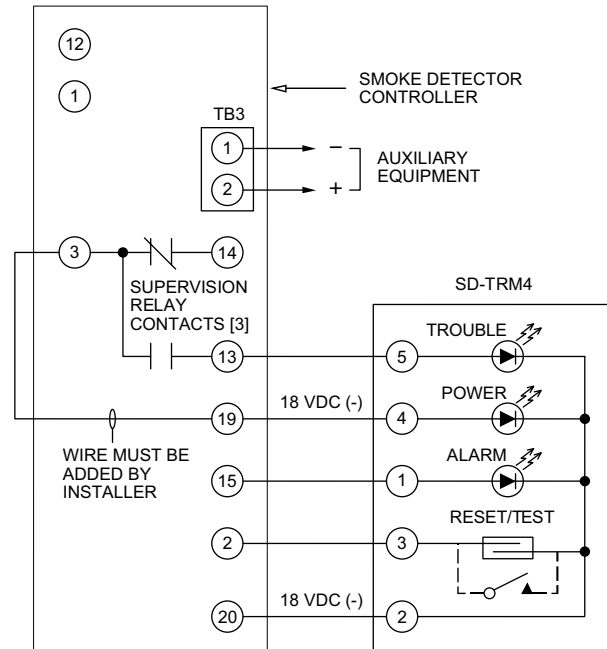

Fig. 38 — Remote Test/Reset Station Connections
The test/reset station dirty sensor test checks the test/reset station’s ability to initiate a sensor dirty test and indicate the results. It must be wired to the controller as shown in Fig. 38 and configured to operate the controller’s supervision relay. For more information, see “Dirty Sensor Test” on page 21.
1. Verify that the remote test/station is wired as shown in Fig. 38. Repair or replace loose or missing wiring.